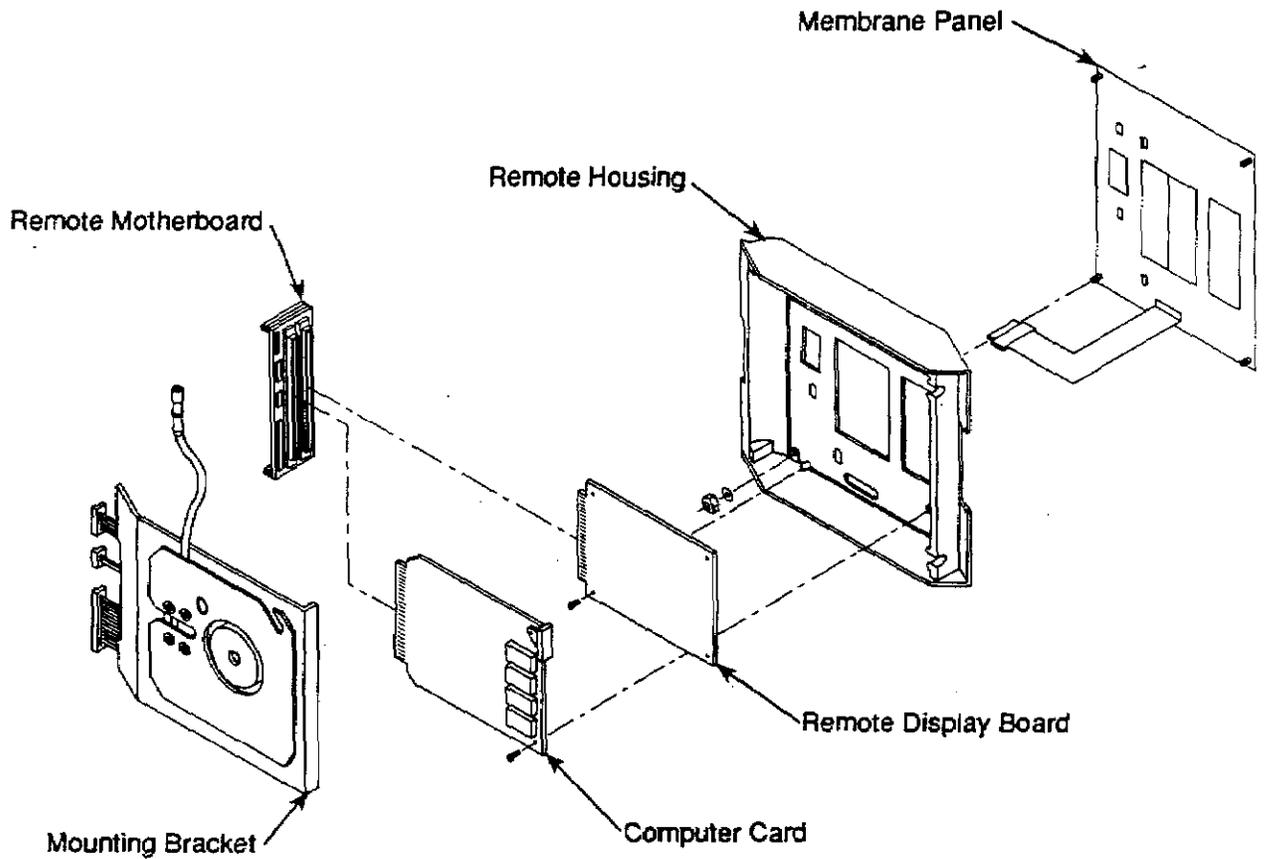

Figure 3-12. Temperature Display Module
3.24 Temperature Display Module (See figure 3-12.)
3.25 Temperature Display Module Membrane Panel (See figure 3-12.)